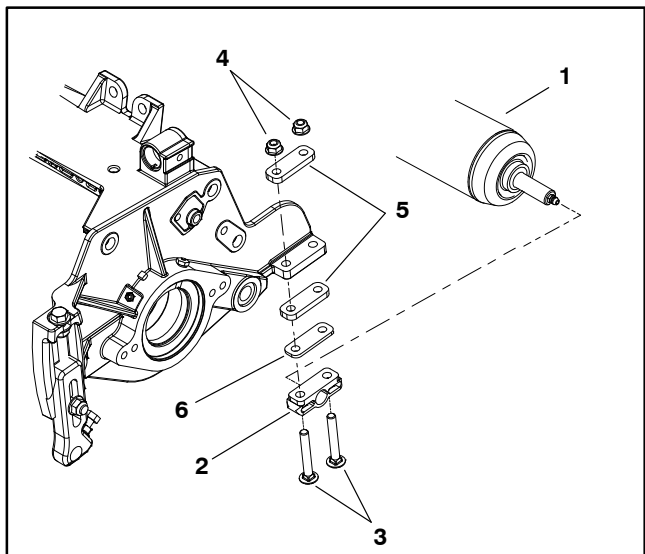

Figure 19
7. If rear roller is still not level after adjusting both side plates, check to see if cutting reel is tapered (see Preparing Reel for Grinding in the Service and Repairs section of this chapter). If cutting reel is not tapered and rear roller is not level, a 0.010" shim (part number 107-4001) is available to allow additional rear roller adjustment. The shim would be used on one side of the rear roller and should be installed between the rear roller bracket and roller shim (Fig. 19).